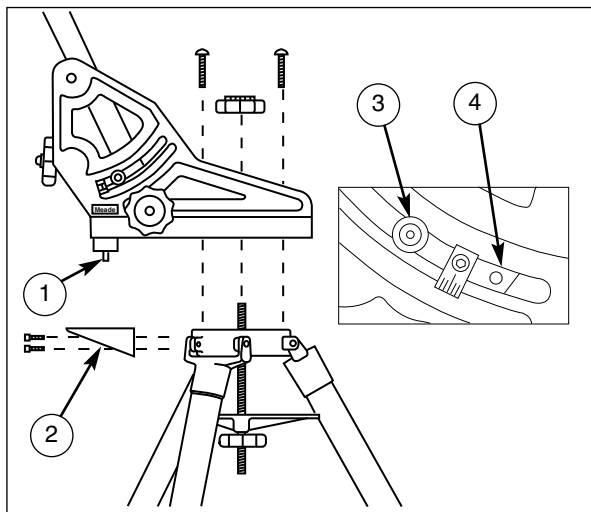

Fig. 11: Mounting Superwedge. (1) Azimuth Thrust Bar Pin; (2) Tangent Arm; (3) Lower Tilt Plate Locking Screws; (4) Lower Mounting Holes.
- The lower tilt plate locking screws (3, Fig. 11) are installed in the factory to allow the tilt plate to be adjusted for any latitude greater than 25 degrees and less than 55 degrees. If viewing in a region with a latitude greater than 55 degrees, move the locking bolts to the lower mounting holes (4, Fig. 11).